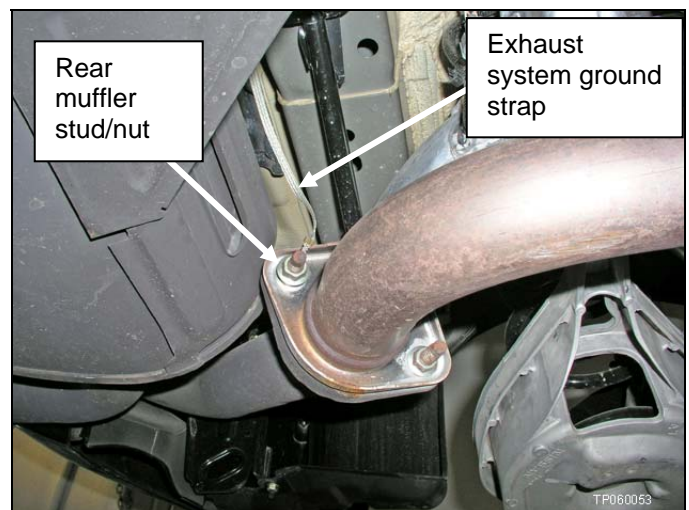

Figure 3
6. Remove the exhaust system ground strap from the muffler stud/nut (see Figure 3).